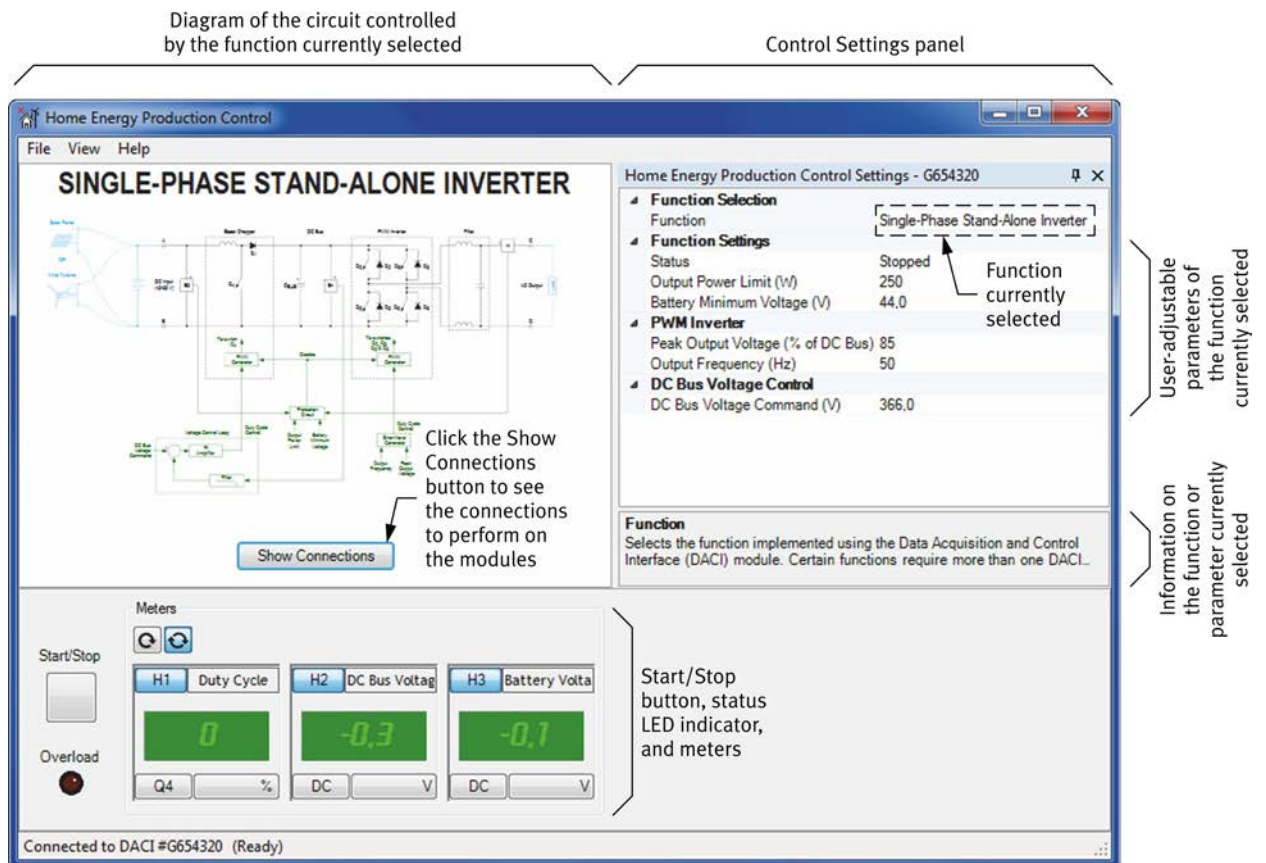

Figure 10: The Home Energy Production Control window.
- The Control Settings panel in the control window allows you to select the function to implement and set the parameters used for this function. In Figure 10, for example, the selected function is the Single Phase Stand-Alone Inverter. Each parameter used for this function can be set by clicking on the parameter's name and entering the desired value or selecting the desired option in the field next to the parameter. The